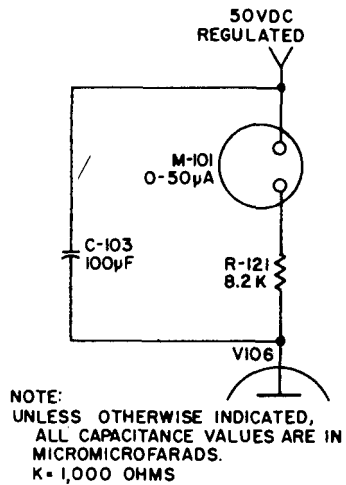

Figure 2-5. Indicating Circuit
c. INDICATING CIRCUIT. (See figure 2-5.)—The indicating circuit consists of capacitor **C103**, resistor **R121**, and meter **M101**. Capacitor **C103** is connected in parallel with **M101**. The complete circuit is connected between the plate of **V106**, in the pulse shaper and amplifier circuit, and the **V106** plate supply. When **V106** conducts, the current pulse charges **C103** and causes a meter deflection. During the interpulse interval, **V106** is cut off, causing **C103** to discharge through **M101** and thus to maintain the deflection nearly constant, so long as the radiation strength is unchanged.